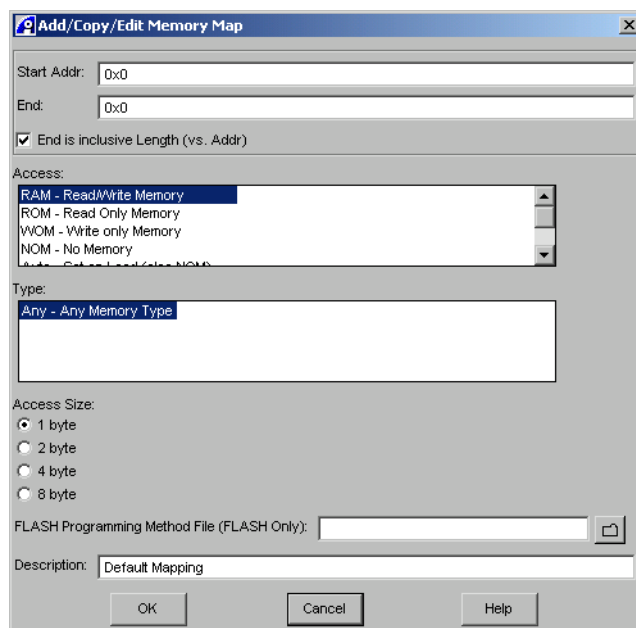

Figure 5-1 Add/Copy/Edit Memory Map dialog box
2. Select **Add or Copy Map Entry...** to display the Add/Copy/Edit Memory Map dialog box, shown in Figure 5-1.
Displays the Add/Copy/Edit Memory Map dialog box, shown in Figure 5-1 on page 5-5, where you can create a new map entry based on an existing entry.
Displays the Add/Copy/Edit Memory Map dialog box, shown in Figure 5-1 on page 5-5, where you can edit a map entry.
2. Select the option **Edit Map Entry...** to display the Add/Copy/Edit Memory Map dialog shown in Figure 5-1 on page 5-5.